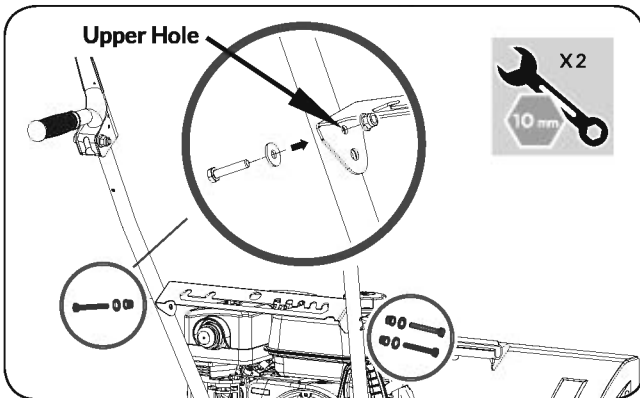

Figure 4
1. Place the control panel between the handle bars. Slide the three bolts and washers through the two holes on the right side of the handlebar and the left upper hole. Secure them by finger tightening the nuts. Leave the lower hole on the left hand side without a bolt. This will be used to secure the directional chute control assembly later. (See **Figure 4**).